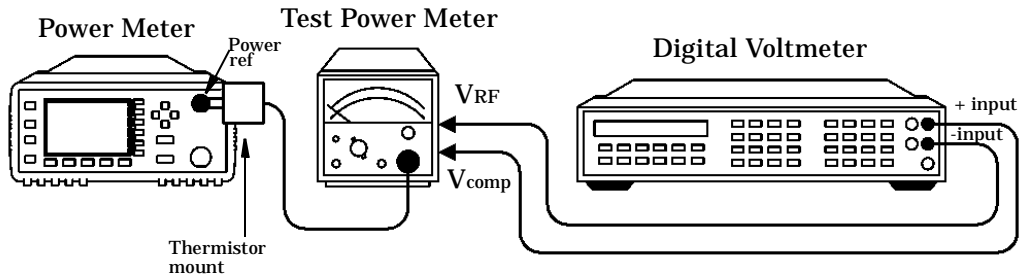

Figure 2-5: Power Reference Level Test Setup
2. Round off the DVM reading to two decimal places and note this value as the internal bridge resistance (R) of the Agilent 432A (approximately 200 Ω).
3. Connect the equipment as shown in Figure 2-5, ensuring that the DVM input leads are isolated from chassis ground.